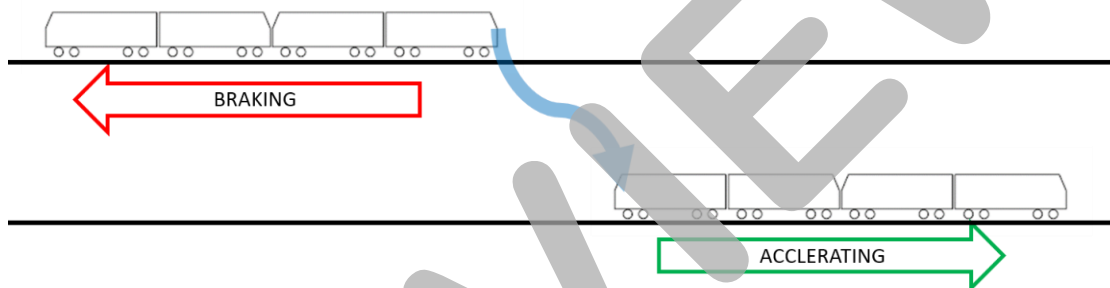

Figure 3.5 Regenerated DC energy from braking train is used by accelerating train within specific proximity.
1. **Regenerative Braking:** If the DC high voltage power source (third rail, catenary, or, in some cases, battery power) is receptive and can absorb the current, power is returned back to the source. Electrical energy can be reused to power the train or to send along the rail to help power an accelerating train nearby (Figure 3.5).